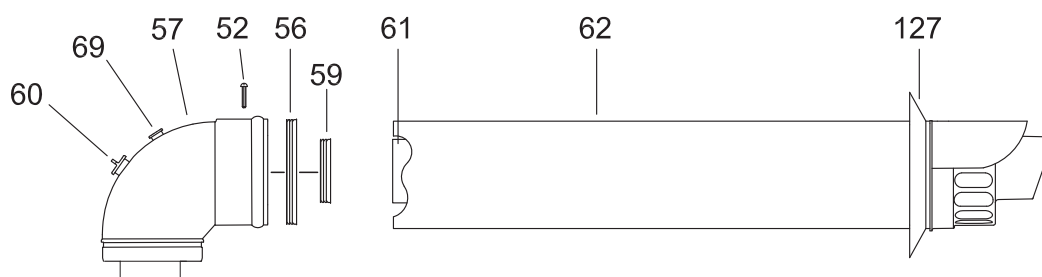

Fig 10
HORIZONTAL FLUE KIT BOX CONTAINING (Fig 10):
Note: Add 30 mm to allow for terminal rubber wall seal (fig.10 item 127).
Working above the boiler pull the flue duct towards the elbow in order to engage the tube into its header (fig.10). Position the flue elbow in line with the flue and push so as to locate inner and outer flue correctly. Ensuring a good seal is made with O-rings. Tighten the two screws on the flue flange to secure the elbow header in place.
Terminal rubber wall seal must be fitted (127 fig.10 item 127).